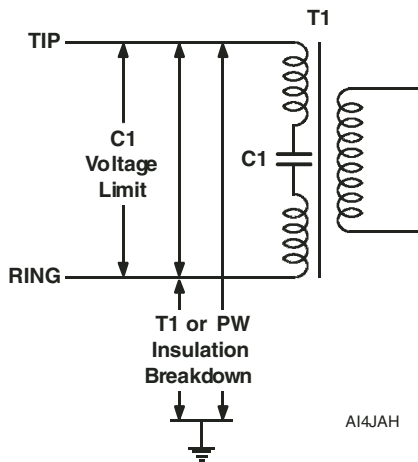
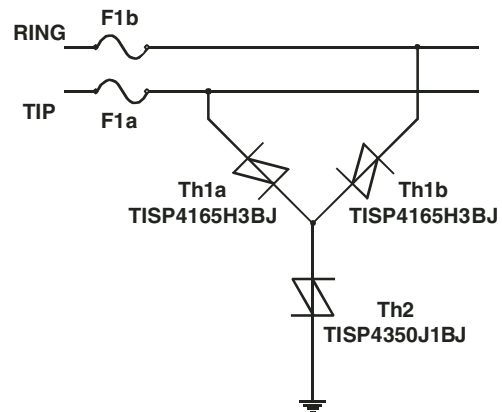

Figure 16. ADSL Modem Interface Voltage Limitations
Figure 17. Asymmetrical Design for US ADSL Modems
These designs are for special needs, where the RING to TIP protection voltage must be different to the RING to GROUND and TIP to GROUND voltages. ADSL modem interfaces often have a need for asymmetric voltage limiting, see Figure 16. Here, the RING to TIP voltage limitation is given by the d.c. blocking capacitor, C1, and the RING to GROUND and TIP to GROUND limitation is insulation breakdown. Often the breakdown limit is set by the spacing of the PW (Printed Wiring) tracks. Figure 17 shows a solution. Using two ±165 V V(BO) parts for Th1a and Th1b, the RING to TIP voltage is limited to ±330 V. Using a higher voltage ±350 V V(BO) part for Th2 limits the insulation stress to ±515 V. Figure 17 and its following table is for a GR-1089-CORE compliant design.